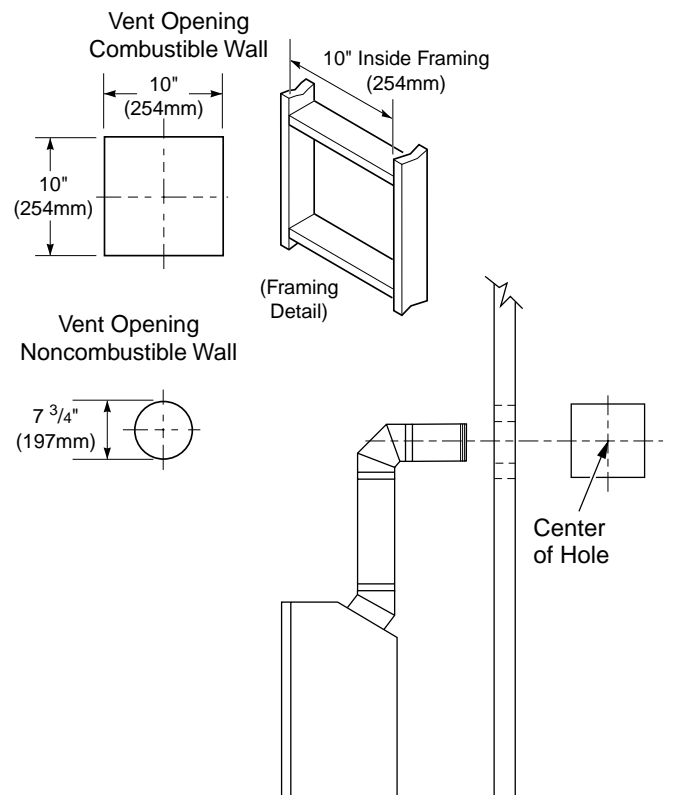

Figure 9 - Vent Opening Requirements
5. Carefully determine the location where the vent pipe assembly will penetrate the outside wall. The center of the hole should line up with the center-line of the horizontal vent pipe. Mark the wall for a 10" x 10" square hole. Cut and frame the square hole in the exterior wall where the vent will be terminated. If the wall being penetrated is constructed of noncombustible material, such as masonry block or concrete, a 7 3/4" hole with zero clearance is acceptable (see Figure 9).
1. Cut a 10" square hole in the ceiling using the locating hole as a center point. The opening should be framed to 10"x10" (254mm x 254mm) inside dimensions, as shown in Figure 9 on page 8 using framing lumber the same size as the ceiling joists. If the area above the ceiling is an insulated ceiling or a room, nail firestop from the top side. This prevents loose insulation from falling into the required clearance space. Otherwise, install firestop below the framed hole. The firestop should be installed with no less than three nails per side (see Figure 20).
3. Cut a hole in the roof using the locating hole as a center point. (Cover any exposed open vent pipes before cutting hole in roof.) The 10"x10" hole must be measured on the horizontal; actual length may be larger depending on the pitch of the roof. There must be a 1" clearance from the vent pipe to combustible materials. Frame the opening as shown in Figure 9, page 8.